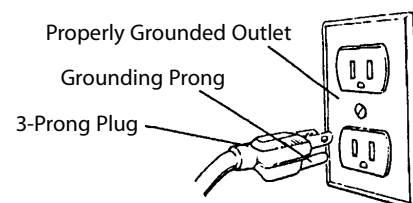

Figure 3 – 3-Prong Receptacle
- This grinder is equipped with an approved 3-conductor cord rated at 300V and a 3-prong, grounding type plug (See Figure 3) for your protection against shock hazards.
- Grounding plug should be plugged directly into a properly installed and grounded 3-prong grounding-type receptacle (See Figure 3).